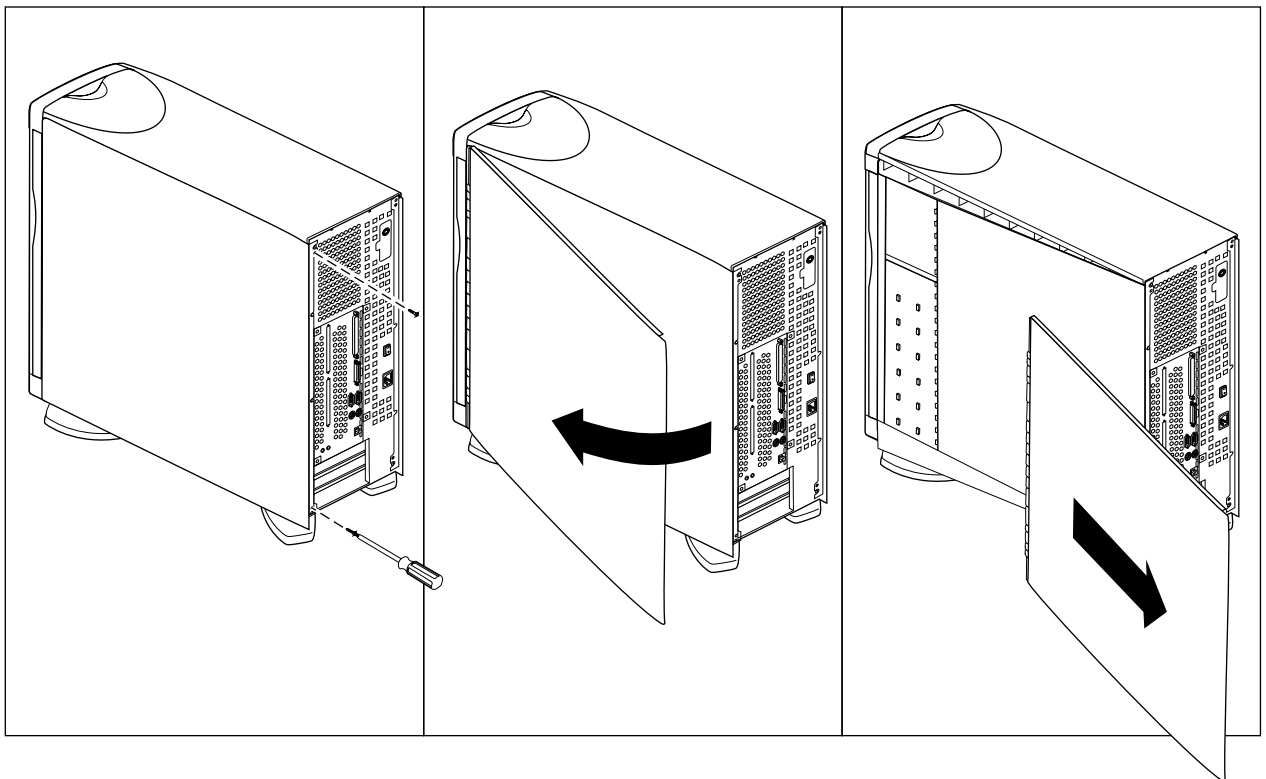

Figure 2-19 Removing the Side Panel of the Second (Slave) Module
1. If the slave system is in a tower configuration, remove the side panel as shown in Figure 2-19.